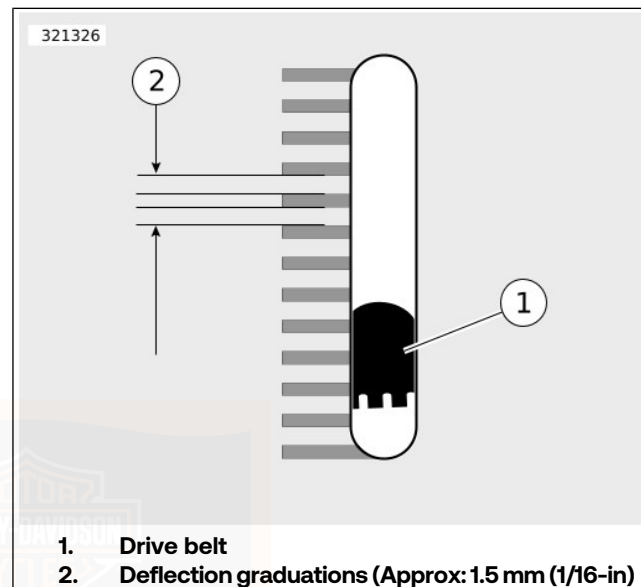

Figure 54. Belt Deflection Window
- a. Slide O-ring (4) to zero mark (3).
- b. Fit belt cradle (2) against bottom of drive belt in line with belt deflection window.
- c. Press upward on knob (6) until O-ring slides down to 4.54 kg (10 lb) mark (5) and hold steady.
- a. See Figure 54. Measure belt deflection as viewed through belt deflection viewing window while holding gauge steady. Each deflection graduation is approximately 1.6 mm (1/16 in).